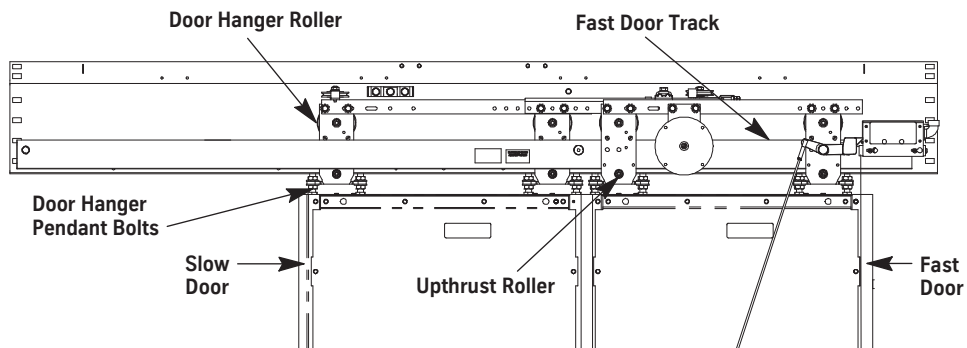

Figure 38 - Door Rollers
4. Loosen all upthrust rollers. See Figure 38 on page 7-43.